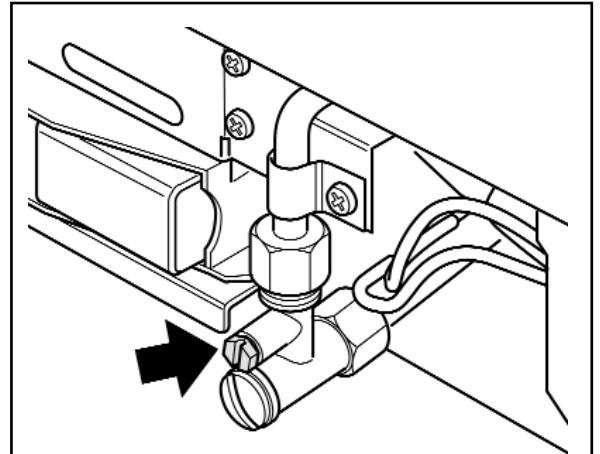

Figure 25. Pressure test point
1. Check the inlet pressure by fitting a pressure gauge at the test point. The test point is on the inlet 'T' connector (See figure 25). Check the pressure with the appliance alight and set at maximum output.